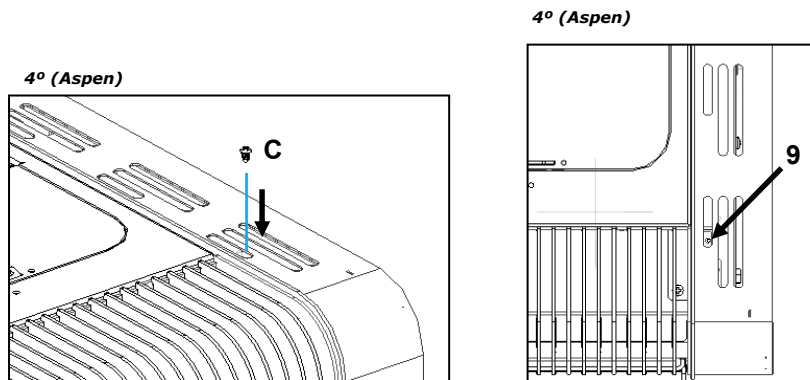

Figure 40 - Assembly of Aspen covers
i) Finally, screw C (DIN 7981 4,2x9,5), in hole 9, as shown in Figure 40.